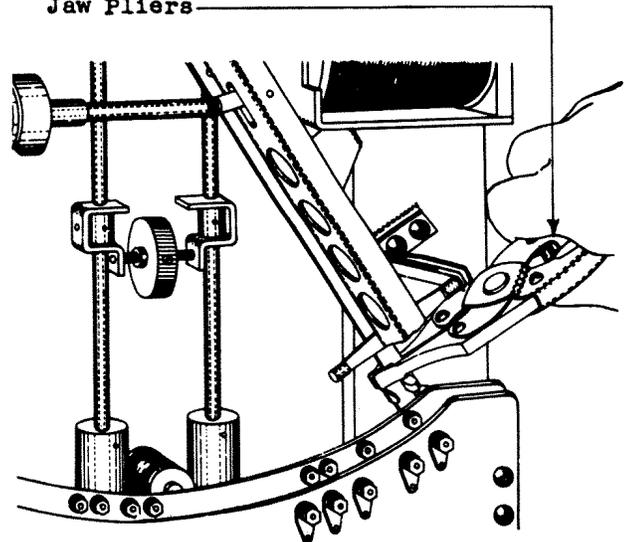

Fig. 27 - Method of Adjusting the
(1) To readjust for this clearance release the contact arm from the pendulum, move to the right side and adjust the contact arm just below the armature by means of the KS-7782 parallel jaw pliers.
(2) If, after this adjustment, the armature is not approximately parallel to the face of the core of the trip magnet, apply the KS-7782 parallel jaw pliers to the contact arm just above the armature as shown in Fig. 27, and adjust the arm as required.
(3) If it is necessary to make any readjustments for this requirement, all the requirements on the reset arm must be checked.